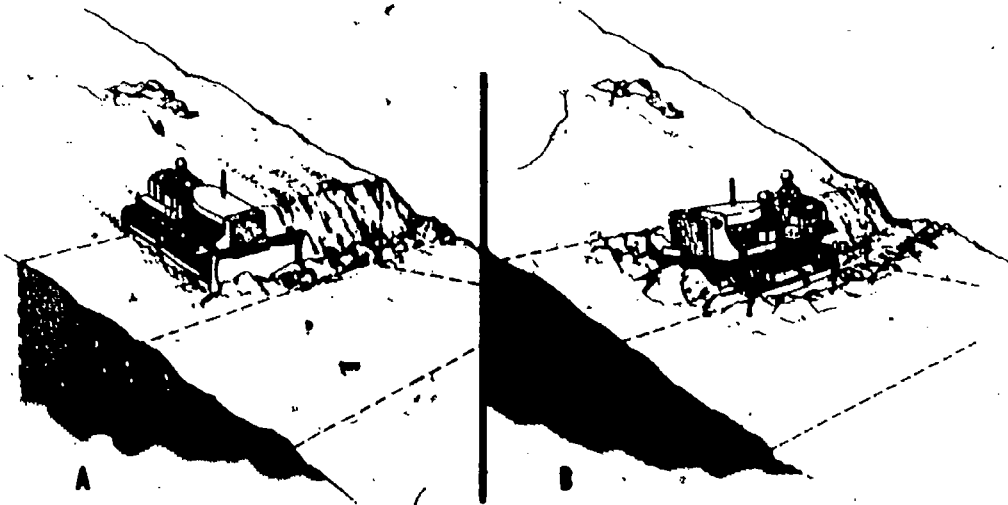

Fig 4-27. Starting sidehill cut on gentle slope.
(2) Rocks and boulders. A dozer with a tilted blade is the most effective piece of equipment for removing rocks and boulders. With the blade tilted, remove the earth from three sides of the rock. The dozer should then push from the uncut side, letting the blade penetrate deep enough to get under a portion of the rock. The dozer moves forward, pushes the rock and lifts it with the blade. This combined pushing and lifting action is similar to stump removal, and provides a means of rolling the rock, boulder, or stump.
b. Sidehill cutting. The angled dozer is the best piece of equipment for this operation because of its sidecasting action. A sidehill cut should be worked from the top of the proposed road downward, if possible. After getting to the top of the hill, the angled dozer proceeds to form a level shelf or bench as shown in A, figure 4-27. After the bench is formed, the tractor starts working parallel (B, fig 4-27) to the centerline of the road. Work is started, if possible, at a point close to the slope stakes on the high side of the hill. With the blade angled and tilted to keep the dozer digging low on the inside (against the hill), the dozer begins to work its way downhill, sidecasting material to the outside edge of the road. Care should be taken to continue the cut along the uphill slope stakes, keeping the road low on the inside. This should eliminate potentially dangerous overhangs. Work the material gradually to the outside, being particularly careful when working close to the soft, downhill side of the cut.